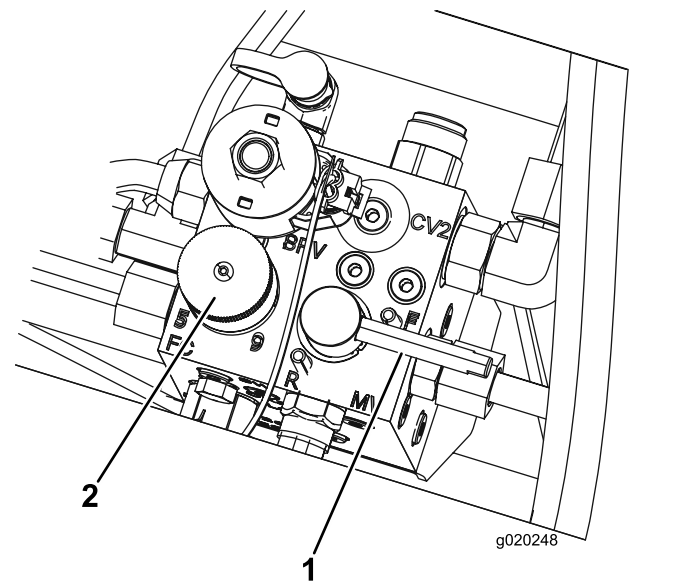

Figure 85
5. Set the reel speed control to position 1 (Figure 85).
6. Move the backlap lever to the R (backlap) position (Figure 85).